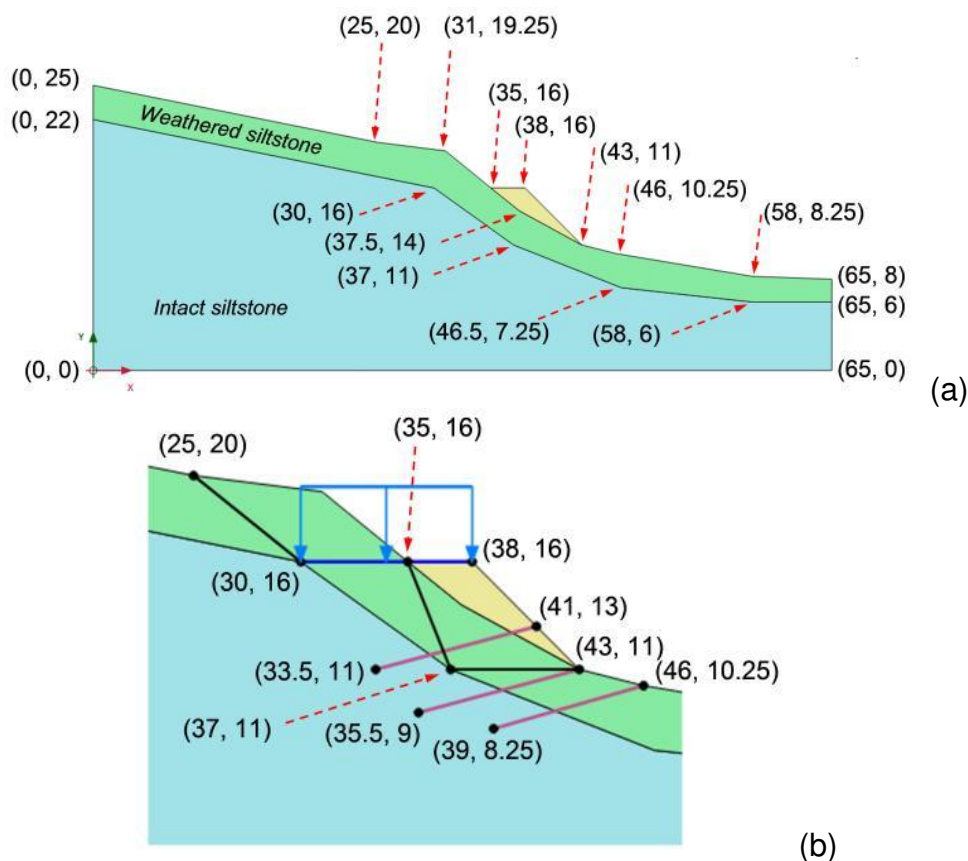

Figure 2: Soil model (a) and position of the road surface, construction details and soil nails (b)
Start a new project and select appropriate *Dimensions* according to the size of the geometry (see figure 2). After closing the *Project properties* window, open the *Snapping options* and make sure to use a snap distance of 0.25m.
- Insert 3 embedded pile rows according to the coordinates given in figure 2.
- After entering all properties for the three soil types, drag and drop the properties to the appropriate clusters, as indicated in figure 2.